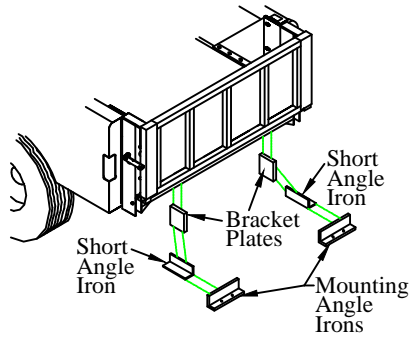

Figure 13: Lower bracket support.
2. **Bolt** the bracket plates to the truck frame (Figure 13).